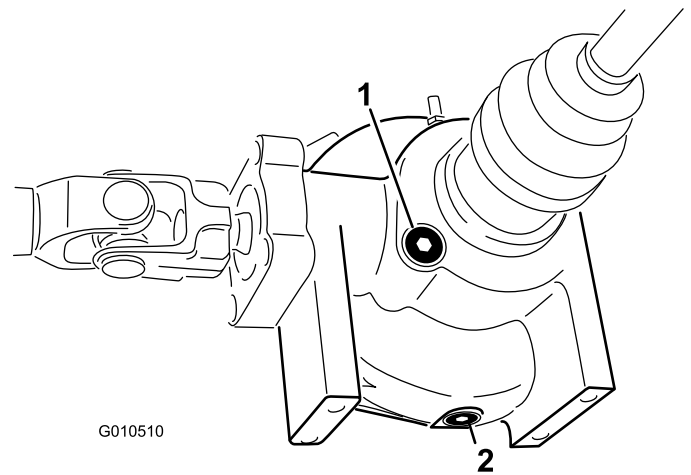

Figure 54
2. Clean the area around the drain plug on the side of the differential (Figure 54). Place a drain pan under the drain plug.